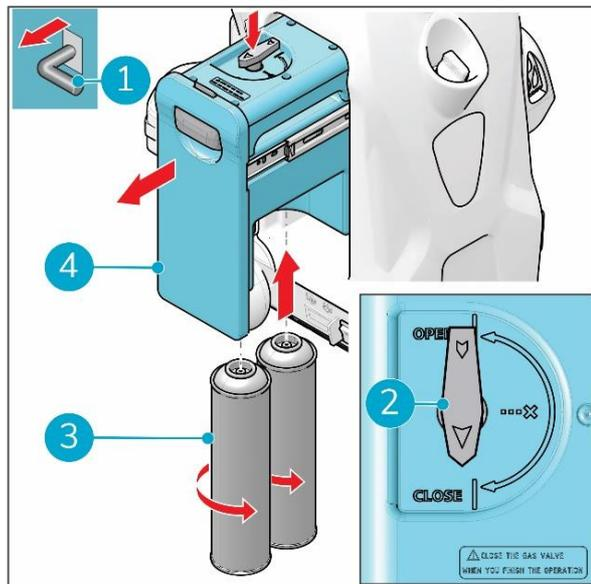

Figure 12
2. Remove the battery charger (Figure 12, pos 6) from the storage bag (Figure 12, pos 1).
3. Connect the battery charger plug (Figure 12 pos 5) to the socket (Figure 12, pos 3).